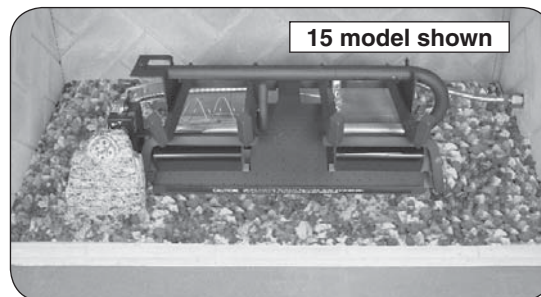

Fig. 20-1 Place lava granules
1. Spread the supplied lava granules on the floor of the fireplace; around the front and sides of the burner system (see Fig. 20-1). The lava granules may be placed around the remote receiver (as applicable). Leave the front of the receiver clear for control access.